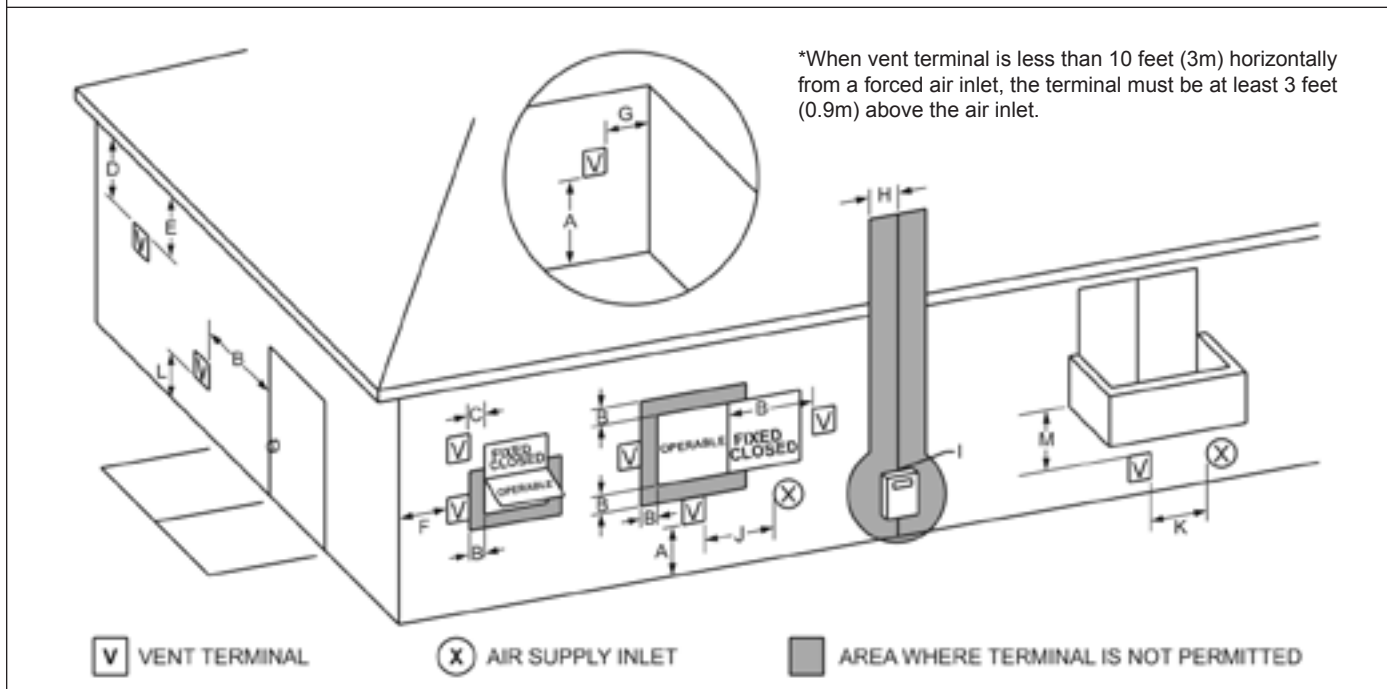

Figure 12. Combustion Air and Vent Through Side Wall.
1. **Figure 12** shows the requirements for mechanical vent terminal clearances for the U.S. and Canada.
7. If the boiler or water heater uses ducted combustion air from an intake terminal located on the same wall, see **Figure 12** for proper spacing and orientation.
The LAARS side wall combustion air terminal, or concentric terminal (see **Table 5**), must be used when the heater takes air from a side wall. Consider the following when installing the terminal (see **Figure 12**):